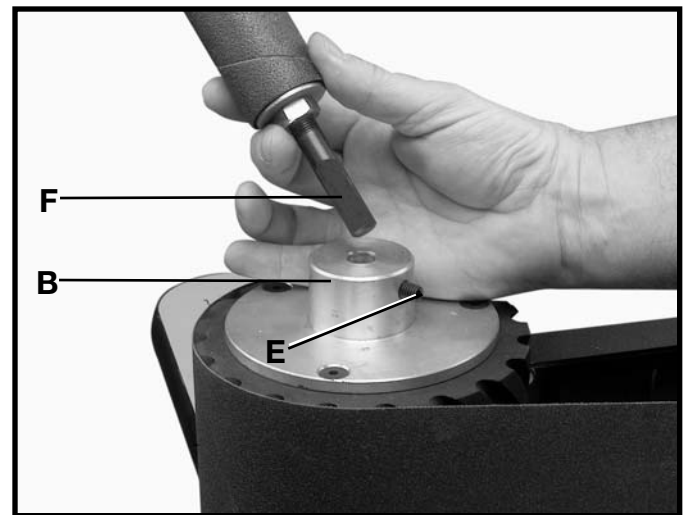

Fig. 42
2. Loosen set screw (E) Fig. 42, and remove drum spindle (F) from adapter plate (B).
3. Insert desired size of drum spindle (F) Fig. 42, into adapter plate (B) and tighten set screw (E).